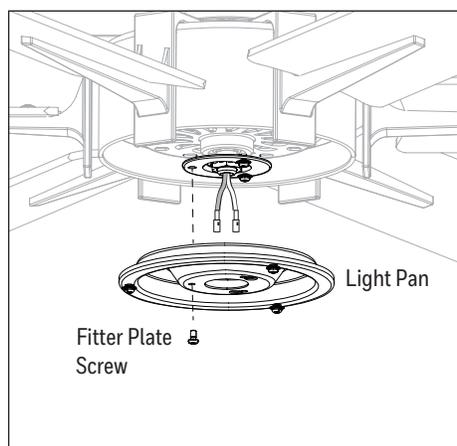

Figure 4.5
5. Remove one of the three fitter plate screws preassembled to the fitter plate and loosen the other two but do not remove. Feed the single-pin connector through center hole in light pan. Align the slotted holes in the light pan with the loosened screws in the fitter plate. Turn light pan clockwise and replace the previously removed fitter plate screw. Tighten all screws (Figure 4.5).